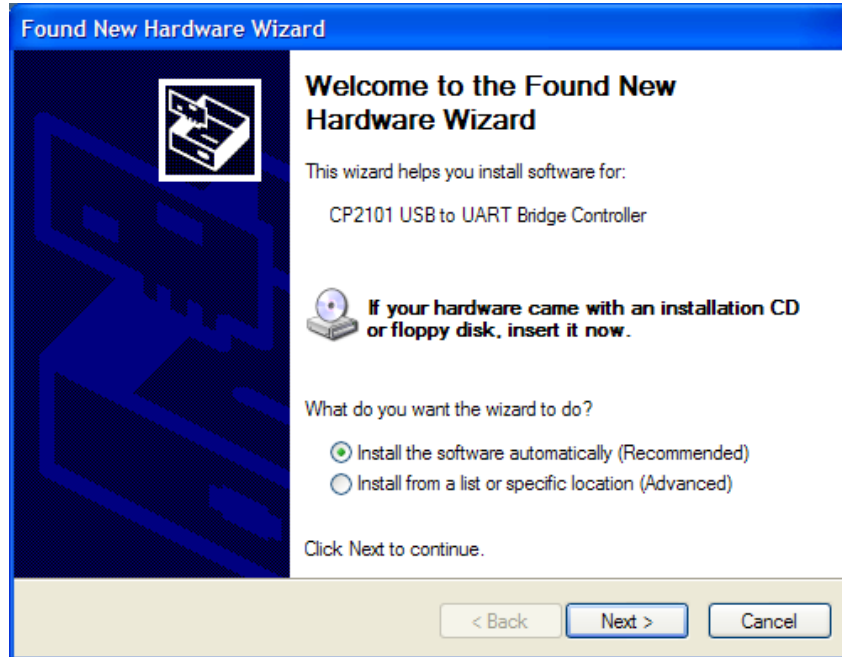

Figure 11 – Found New Hardware Wizard
7. The **Found New Hardware Wizard** launches. Click the **Install the software automatically (Recommended)** radio button (see Figure 11) and then click Next.